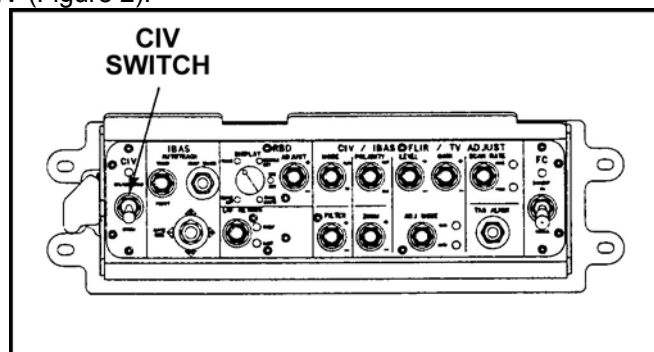

Figure 2. Commander's independent viewer controls.
- a. Unstow the CIV (Figure 2).